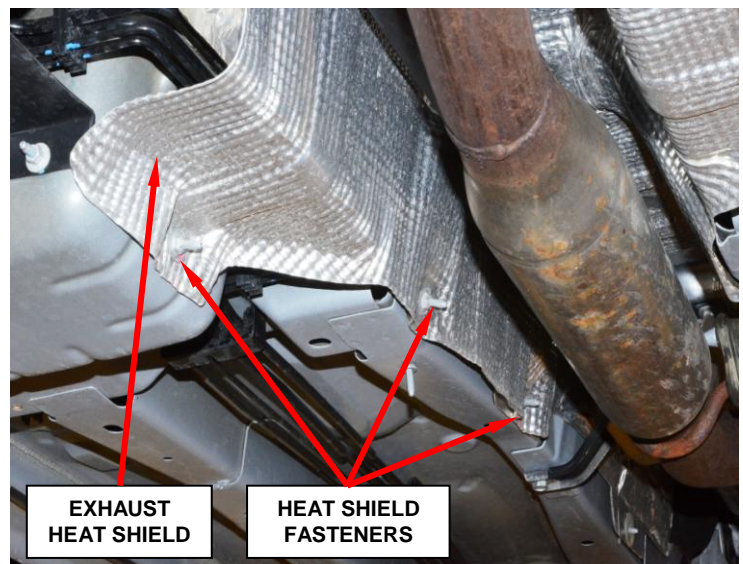

Figure 18 – Exhaust Heat Shield
25. Remove and save the left side exhaust heat shield fasteners for the exhaust heat shield (Figure 18).
53. Install left side exhaust heat shield fasteners (Figure 18).